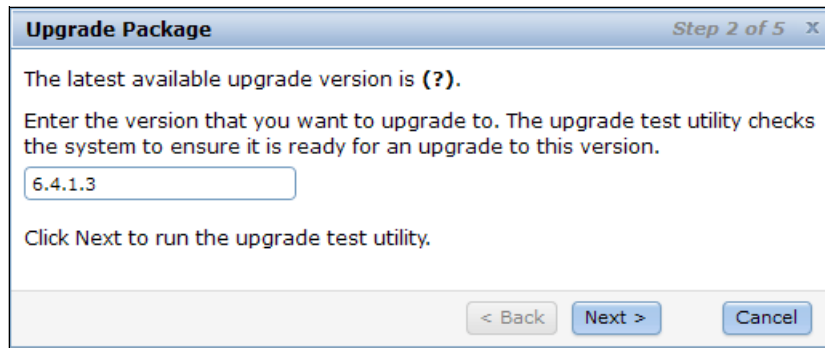

Figure 13-14 Step 2 of 5 - Run upgrade test utility
6. Enter the correct version info that you want to upgrade to. In this example, our version is 6.4.1.3. The upgrade test utility checks the system to ensure it is ready for an upgrade to this version. Click **Next** to run the upgrade test utility, as shown in Figure 13-14 on page 545